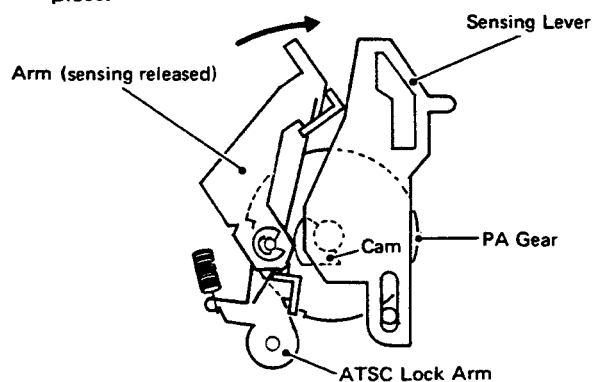

Fig. 21 Drawing out the HD (Sensing released)
2. To prevent this, the arm (sensing released) is held pushed toward arrow direction, by the cam of PA gear, through ATSC lock arm, as shown in Fig. 21. This prevents FWD/REV switch over by keeping the cam of sensing cam gear away from the sensing lever.